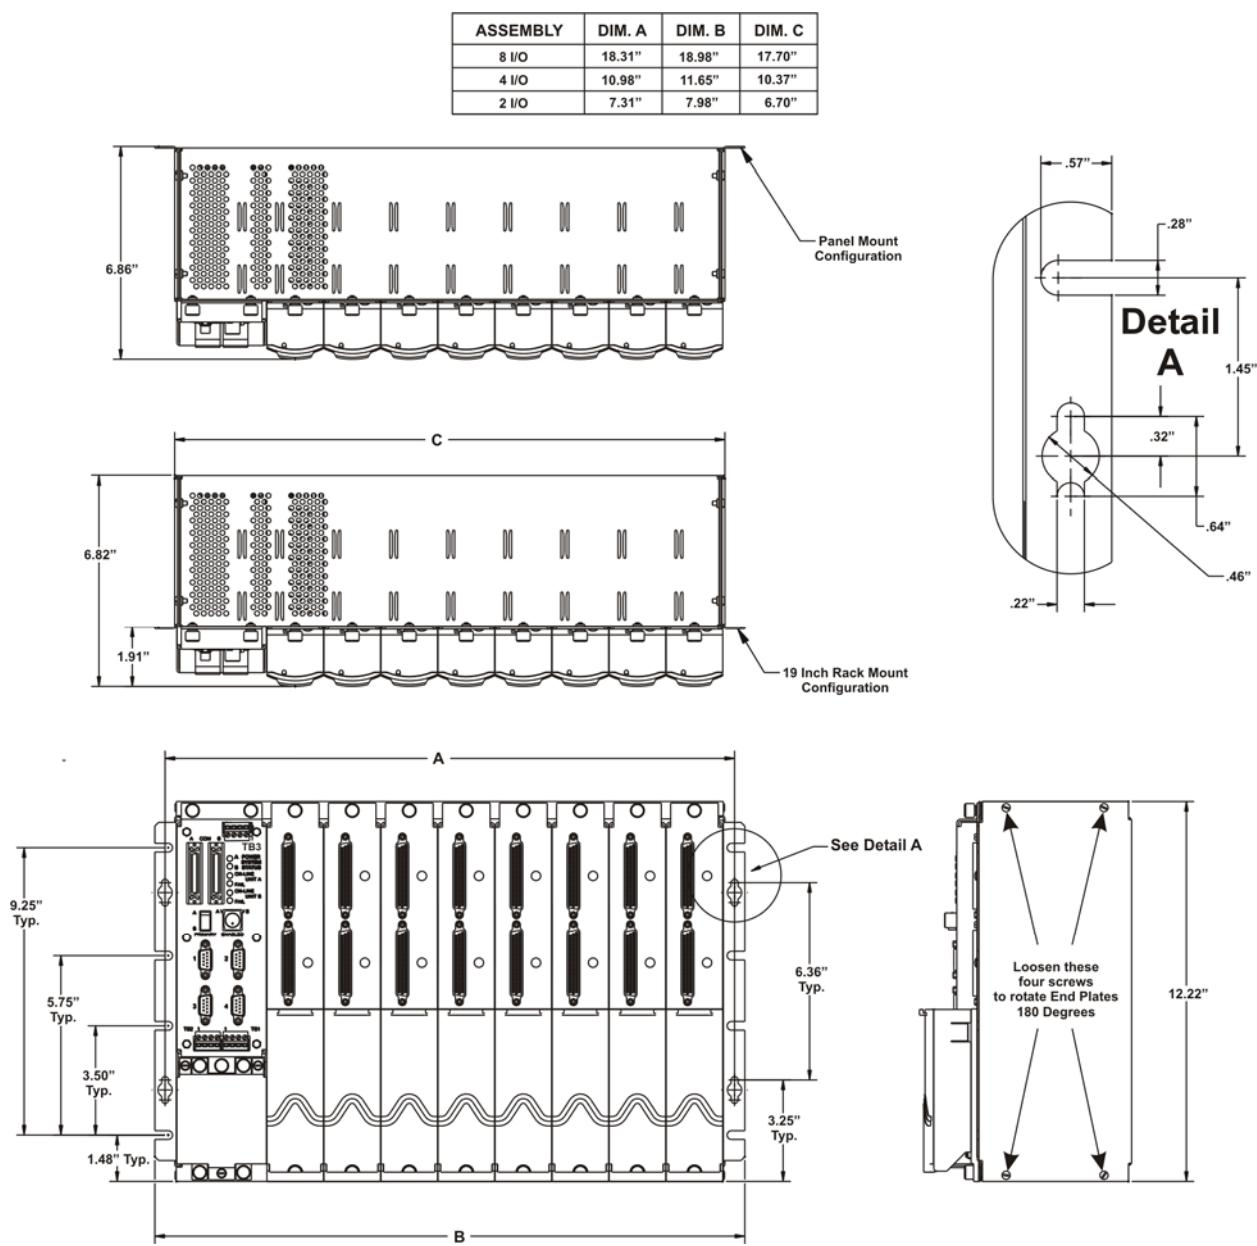

Figure 2-1 - ControlWave (CWREDIO) - Mounting Diagram
- The End Plates must be removed, rotated 180° and then reinstalled to accommodate panel or wall mounting. Hole patterns and dimensions are provided in Figure 2-1.